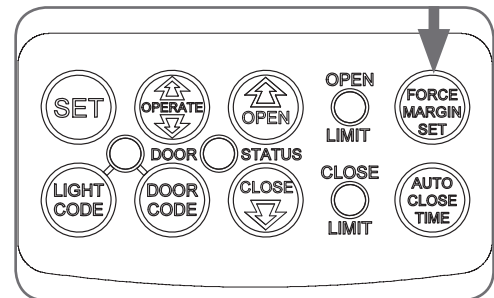

Fig.6.8.3
- Press and hold the FORCE MARGIN SET button (Fig 6.8.3).